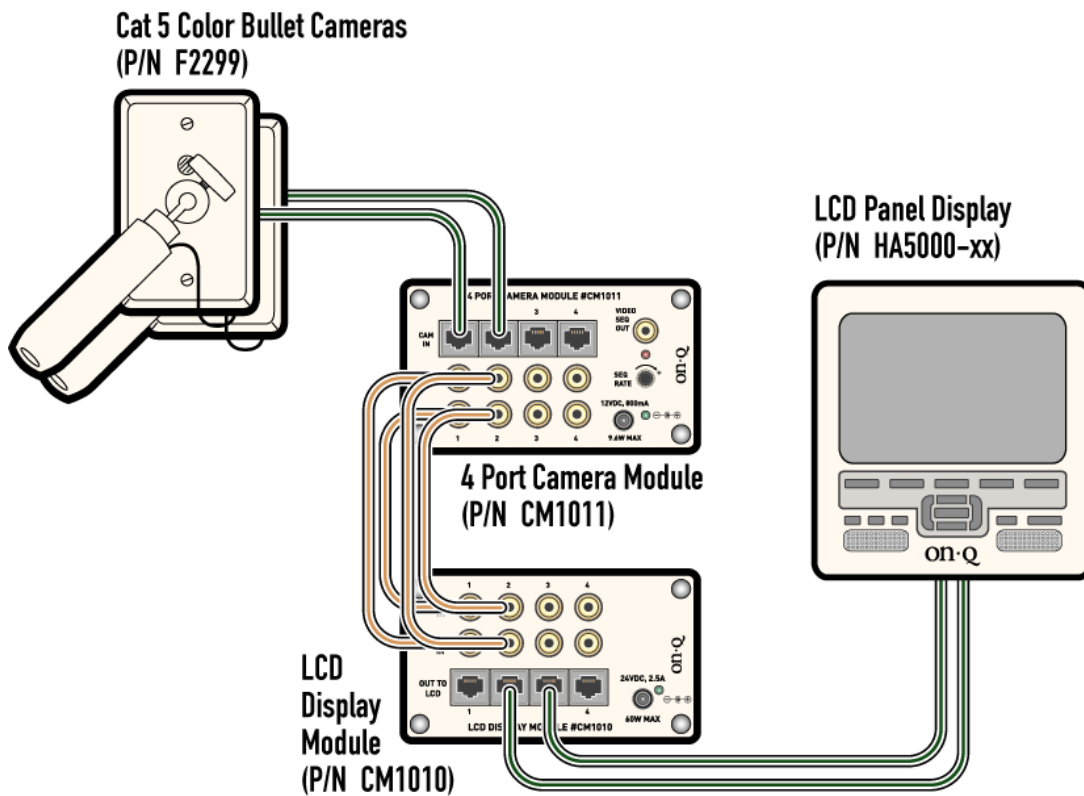

Figure 6
**Figure 6** shows a two-camera system (both configured with the optional audio component).